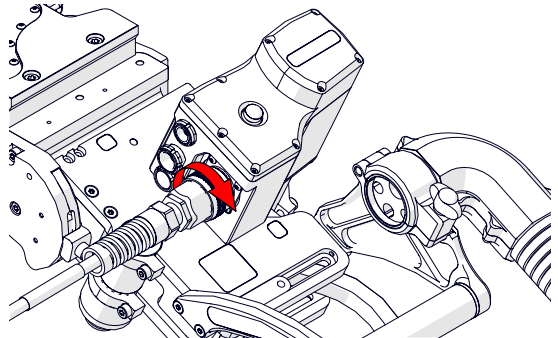

Fig. 73 - Press and rotate to seat pins of umbilical
2. Rotate the umbilical until the umbilical becomes seated in the pins of the umbilical connection (Fig. 73).